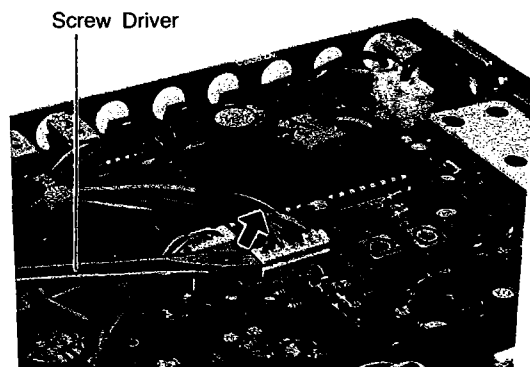

Fig. 12
*1. Remove socket in the direction of arrow as shown in fig. 12.